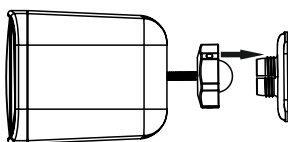

figure 3
Attach the complete set (loudspeaker + threaded ball + locking nut) to the wall mounting part (1). See figure 3.